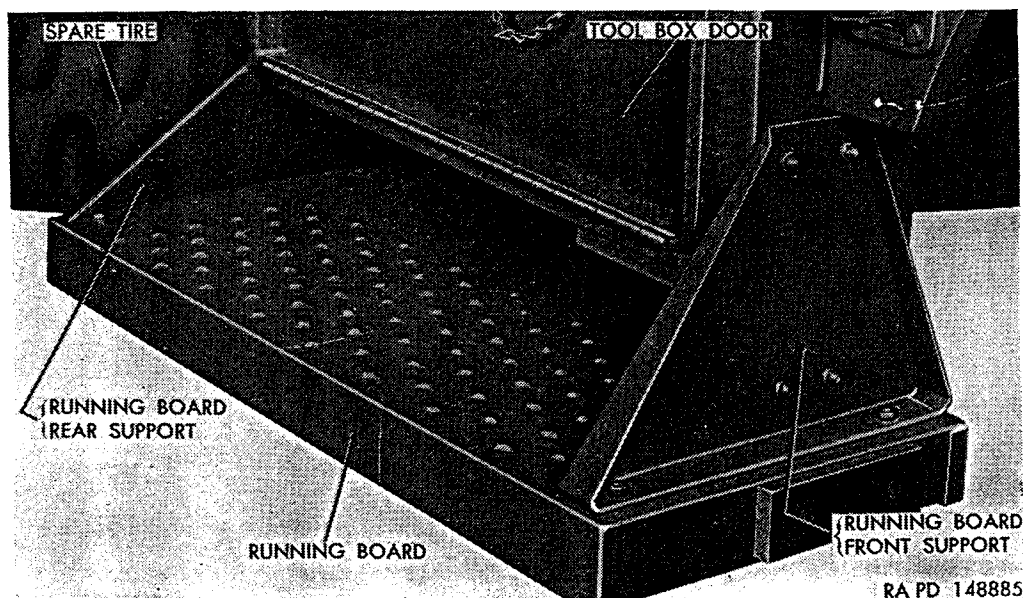

Figure 332. Right running board installed.
b. Removal. Remove two cap screws, nuts, and washers attaching running board to front fender as shown in figure 332; then remove rubber spacer from between running board and fender. Remove four cap screws, nuts, and washers attaching running board to support, then remove running boards.